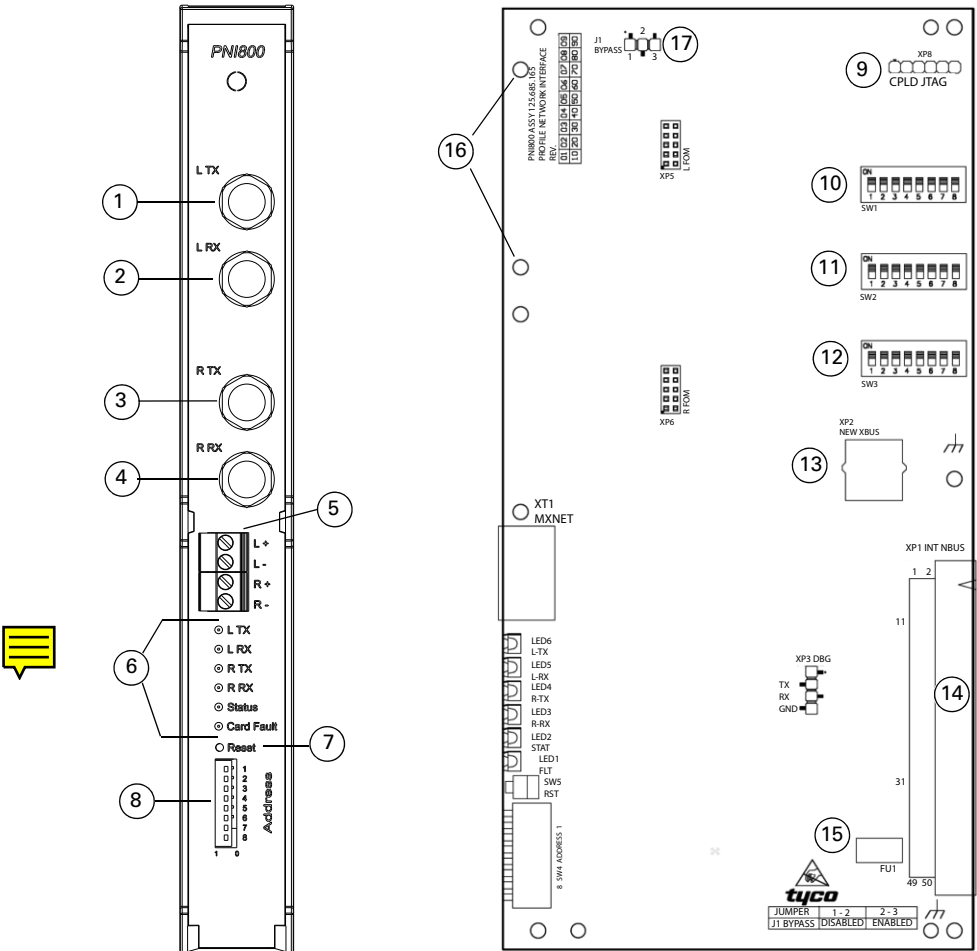

Fig. 1: PNI800 FireClass FC700 Network Interface Card
- Connect fibre-optic cables to fibre-optic connectors 1-4 shown in Fig. 1. Observe the L to R TX/RX pairing. Refer to Fig. 7.
- 4 Set switches and headers for the correct configuration. Refer to Fig. 1 and Tables 4 to 14.